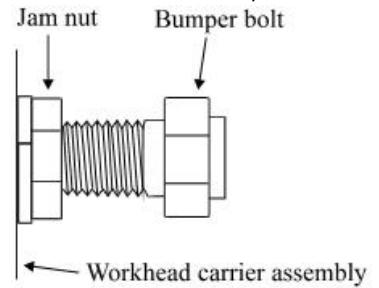

Figure 4-34
7. Loosen the jam nuts on the bumper screws. There are four (4) adjusting bolts on each workhead, two (2) on each side. Refer to figure 4-34.
9. Repeat item 4 thru 9 until the proper distance between the tamping tools is obtained.